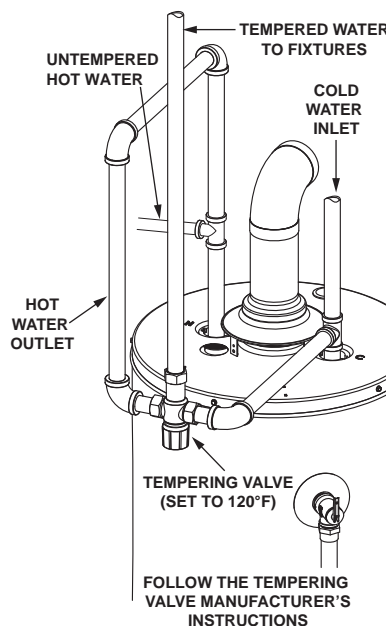

FIGURE 14.
3. The manufacturer of this water heater recommends installing a tempering valve or an anti-scald device in the domestic hot water line as shown in Figure 14. These valves reduce the point-of-use temperature of the water by mixing cold and hot water and are readily available for use.